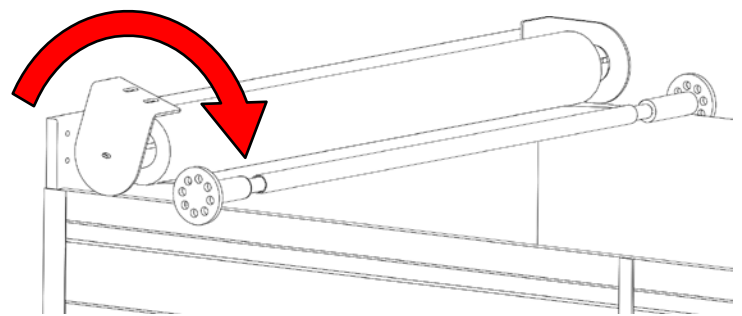

Figure 2: Tensioning Direction (16 to 18 Turns)
4. **Using the drive plate, turn the spool clockwise 16 to 18 times (no more than 20 turns). The spool must be held tightly at all times due to the large amount of tension in the spool at this point. (FIGURE 2)**